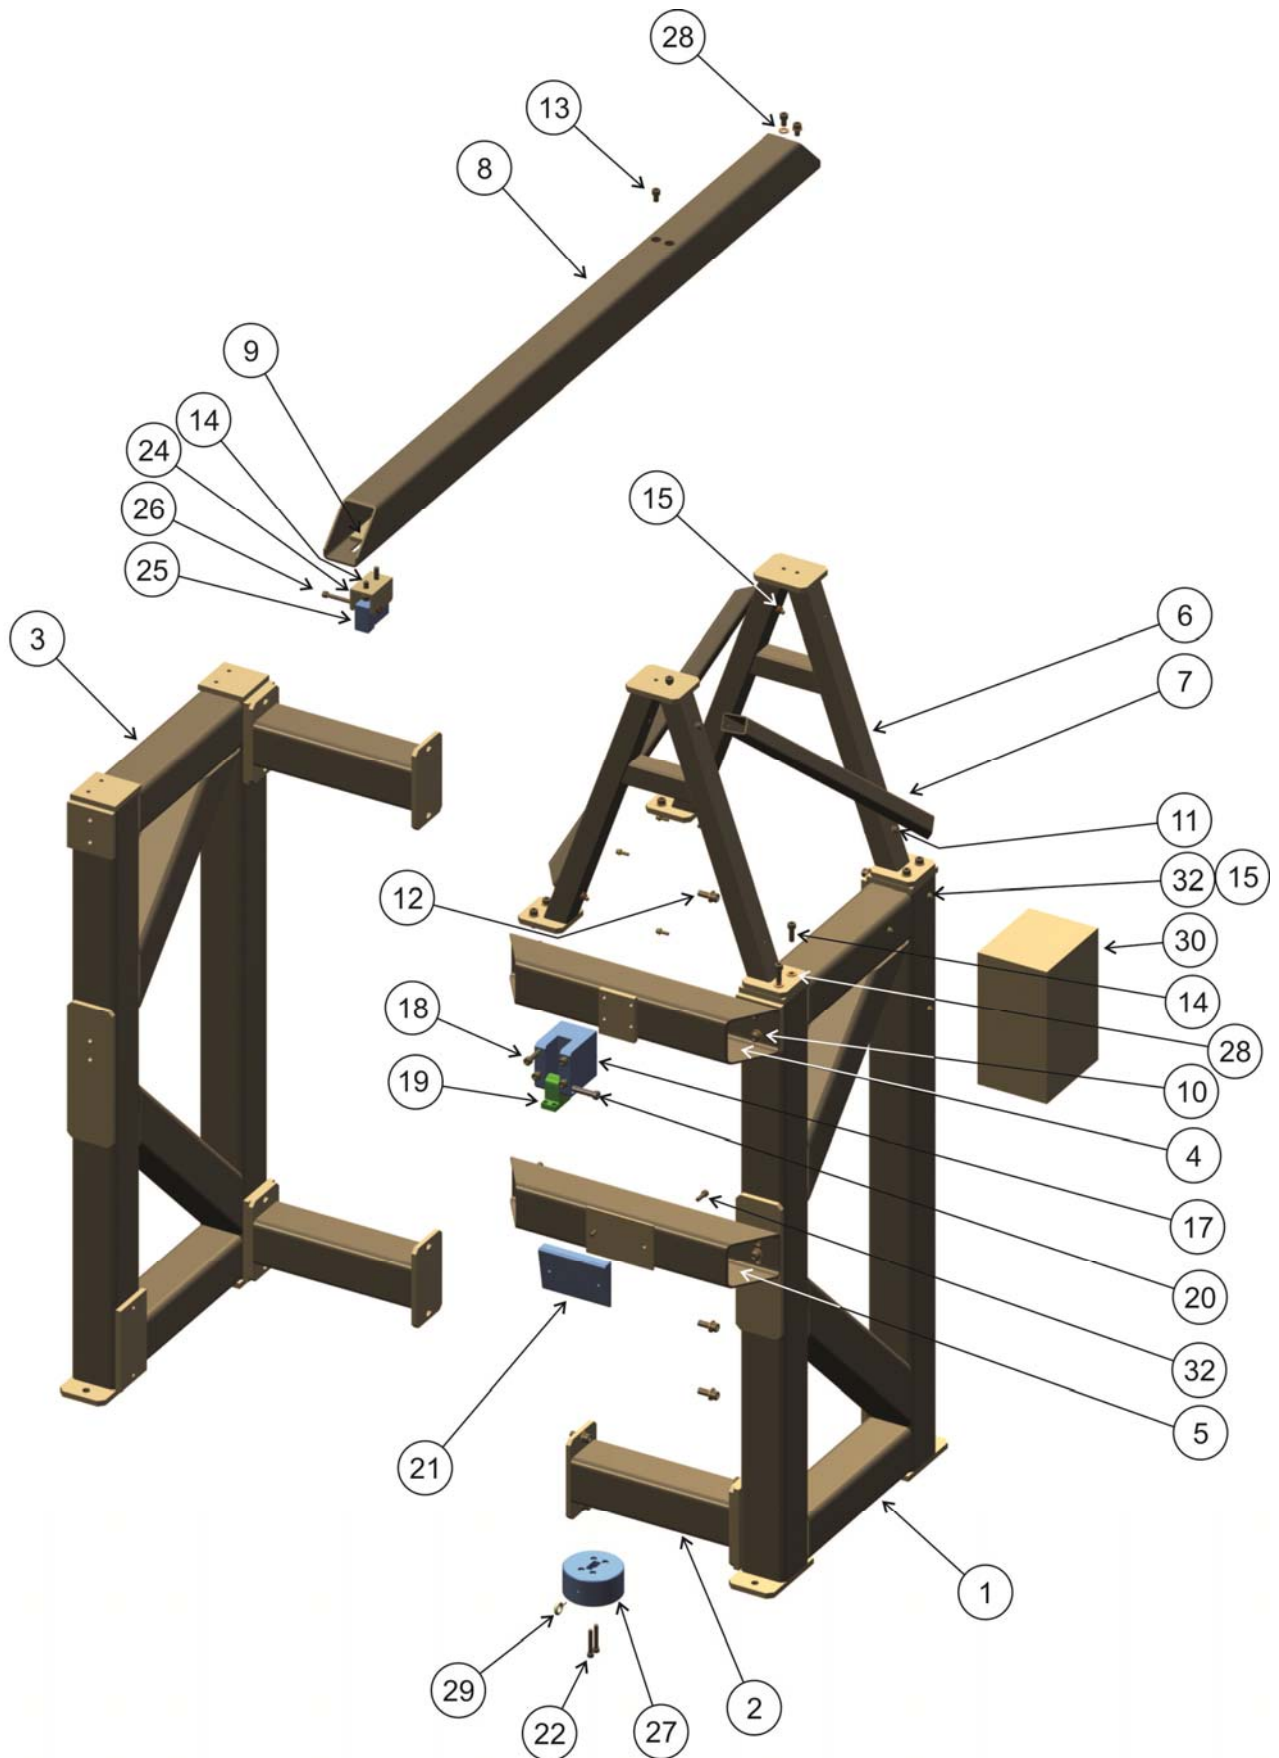

Figure 81 . Exploded view Dynamic Rig part nr 133-8400
Suspend the bare leg (without suit) on the fixture with the Pivot Hinge in the Pivot Clearance Block and the Shoulder Bolt (Figure 81, item 17 and 20). Check that the distance from the bottom of the Impact Block is 30 ± 1 mm above the top of the plastic blue Meniscus (Figure 53 item 2, Part Nr 133 – 5313) of the knee and 13 ± 2 mm from the front of the impact face (point nearest to the leg) to the impact
segments of the tibia. Adjust the height of the Impact Block by moving the Impact Bar Weldment (Figure 81, item 5) up or down (4 screws that mount tube to frame). Adjust the horizontal Impact Block to Leg distance to 13 ± 2 mm by adding add shims to the back of the Impact Block or the Pivot Clearance Block.